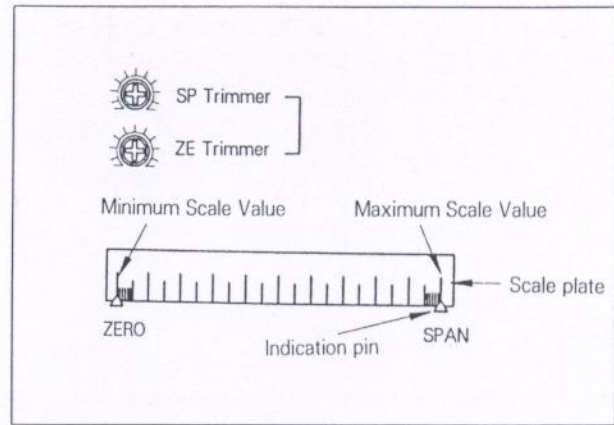

Fig 7.4
- 2) Adjust it with trimmer referring to fig 7.4.